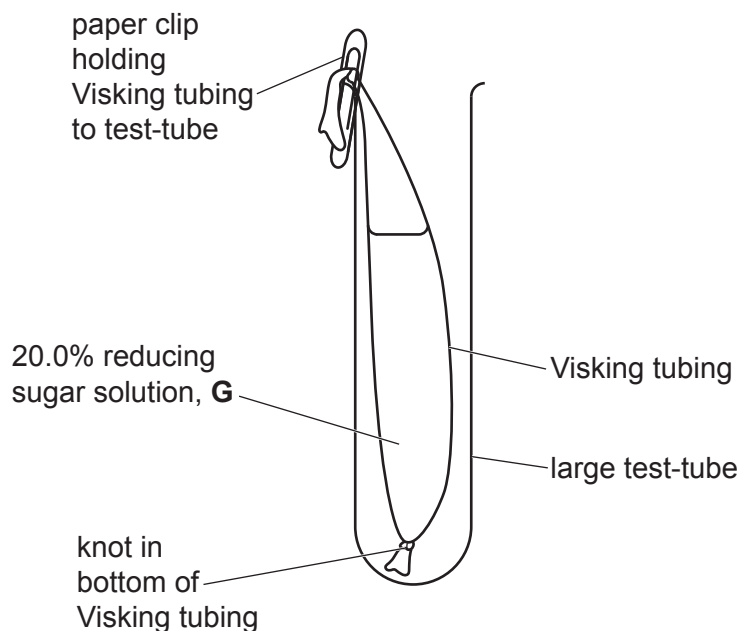

Fig. 1.1
(a) You will set up the apparatus as shown in Fig. 1.1 using step 1 to step 6.
6. Fold the open end of the Visking tubing over the top of the large test-tube. Use a paper clip to hold the Visking tubing in place as shown in Fig. 1.1.